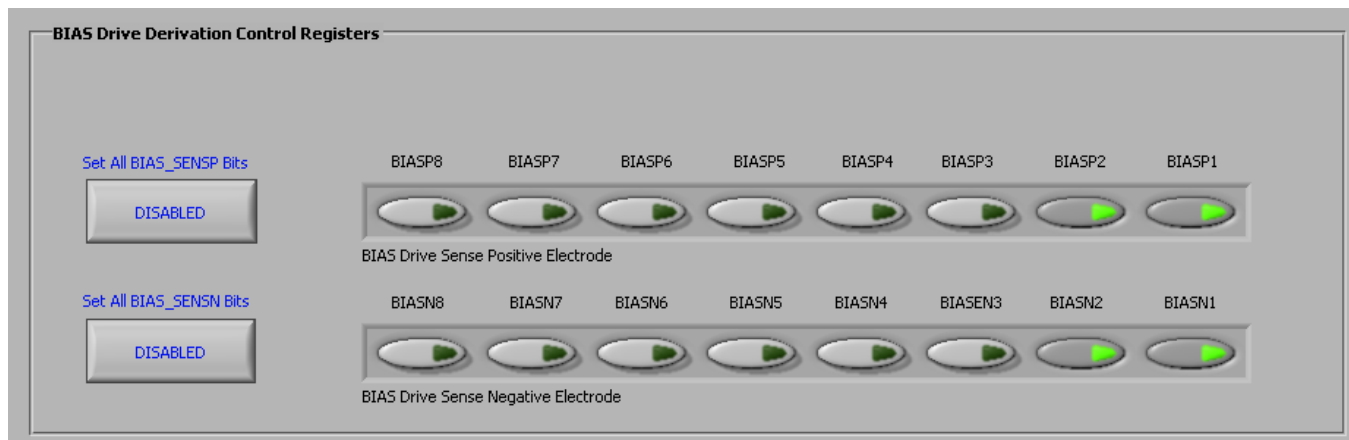

Figure 40. Setting up the Bias Drive Loop
Step 3. Select the electrodes to be chosen for the bias drive loop. In this case, the channel 1 and 2 input signals are used (as Figure 40 shows).